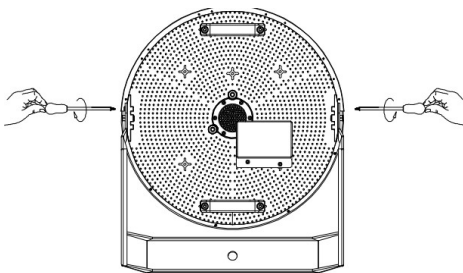

FIG.5
1) Loosen 4 pcs screws with cross screwdriver and internal hexagonal wrench, adjust needed angle and tighten screws. (See FIG.5 and FIG.6)